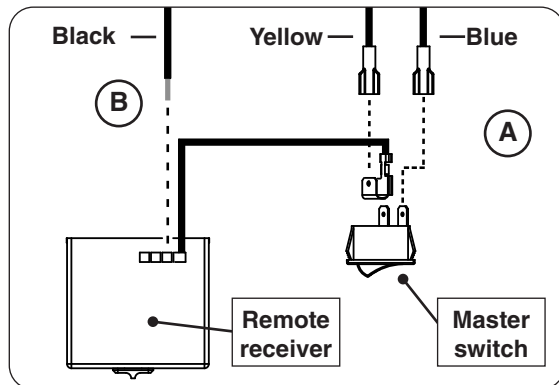

Fig. 27-2 Disconnect receiver & switch wires
- Disconnect the yellow and blue wires (with connectors) from the rear of the master switch (see Fig. 27-2, A).
- Disconnect the black stripped wire from the rear of the remote receiver (see Fig. 27-2, B). Use a small Phillips screwdriver.